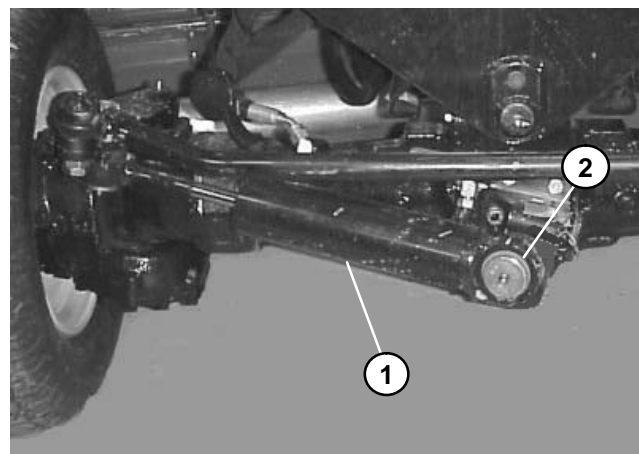

Figure 19
A. (4WD Unit Serial No. 200000001 & Up) Remove the retaining ring securing the rod end of the cylinder to the bevel gear case (Fig. 19).
A. (4WD Unit Serial No. 200000001 & Up) Hold the steering cylinder in position and install the retaining ring securing the barrel end of the cylinder to the cylinder mounting bracket (Fig. 19).